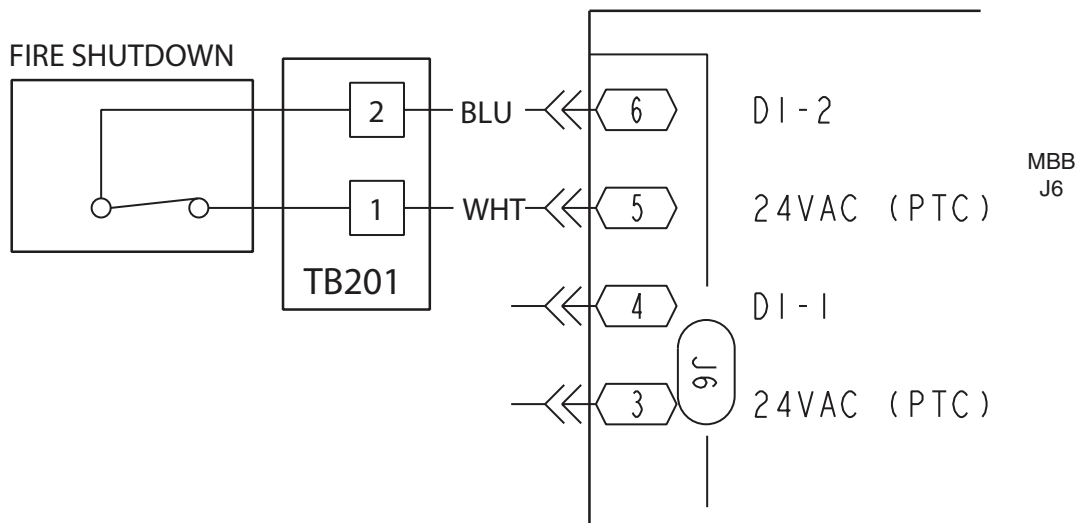

Fig. 65 — Fire Shutdown Wiring
- Smoke control — fire shutdown (Fig. 65)
Smoke Control Modes — Rooftop units can be used for aid in building smoke control in the event of a building fire. The available functions include: Fire Shutdown, Pressurization, Evacuation, and Smoke Purge. These functions are enhanced when multiple rooftop units are used to zone a building. See Table 33 and Fig. 65 and 66.
FIRE SHUTDOWN — Fire Shutdown mode terminates all unit operation (cooling, heating, supply fan, and power exhaust). This mode prevents recirculation of contaminated air back into the space. The mode will not allow admission into the space of unsuitable outside air. See Fig. 65 for wiring.
SMOKE CONTROL INSTALLATION — Implementation of the various Smoke Control Modes on these units requires the installer to modify the unit wiring to add contacts (via either manual switches or relays) that will selectively interrupt and override standard factory control sequences. See Table 33 and Fig. 65 and 66 for more information.